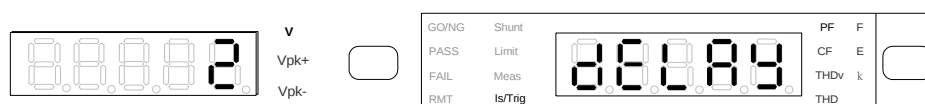

Figure 4-39 Setting DELAY and Time Length
4. In the special measurement display a blinking pattern will appear. Use **↑**, **↓** to select delay and press **Trig/Enter** to save the setting and go to Delay time (ms) selection display as shown in Figure 4-39.